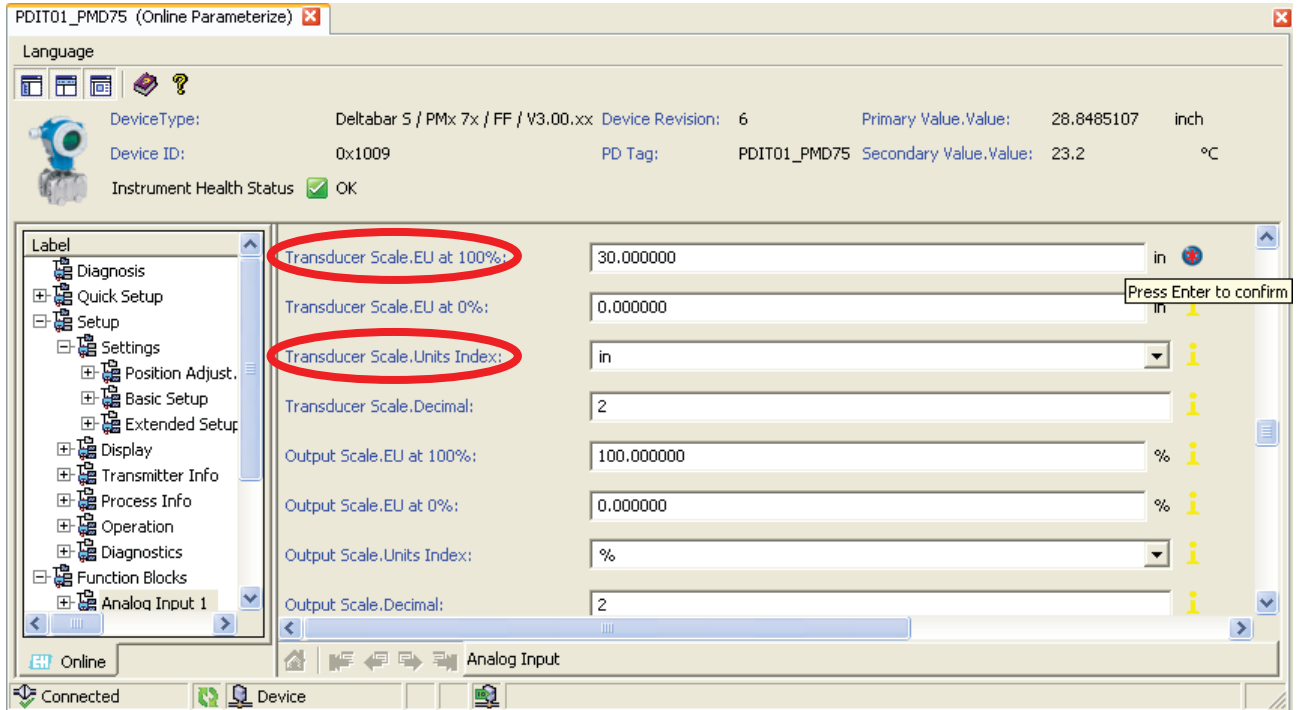
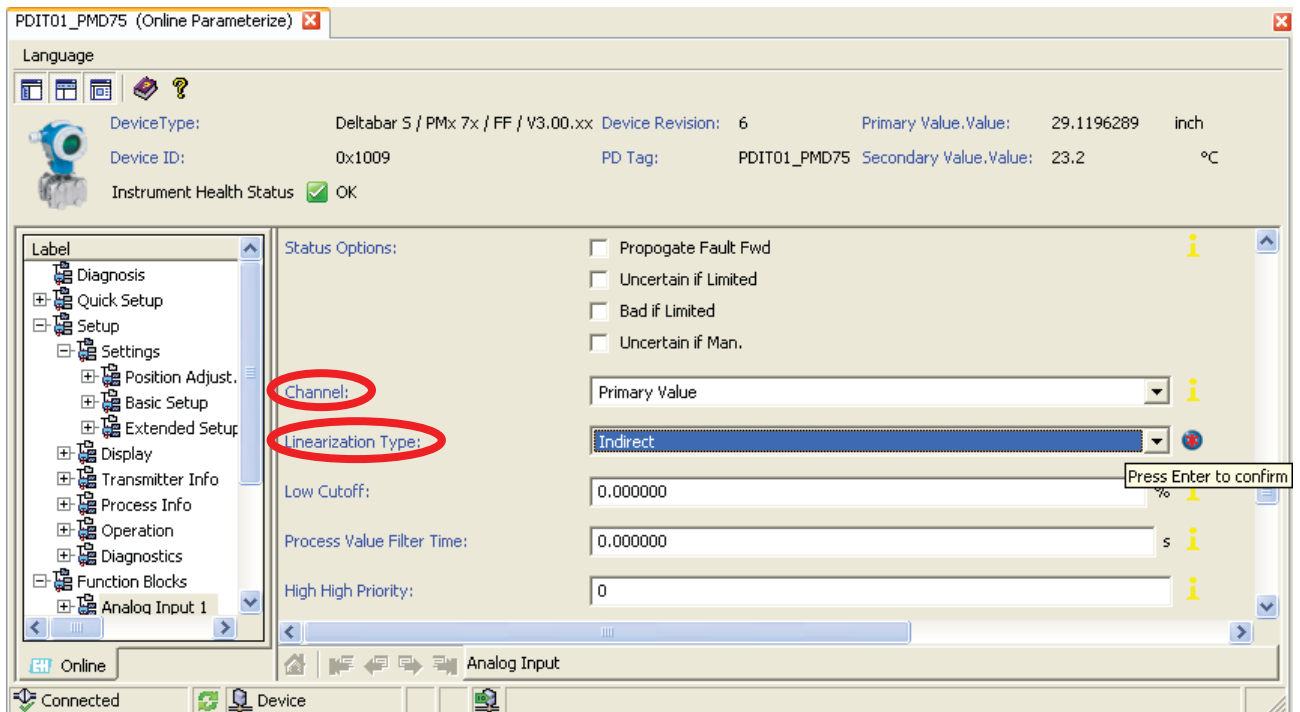

Figure 2-26. Transducer Scale.
Figure 2-27. Channel and Linearization Type.
43. Go to *Function Blocks* ► *Analog Input 1* and make the changes illustrated in Figure 2-26 and Figure 2-27: